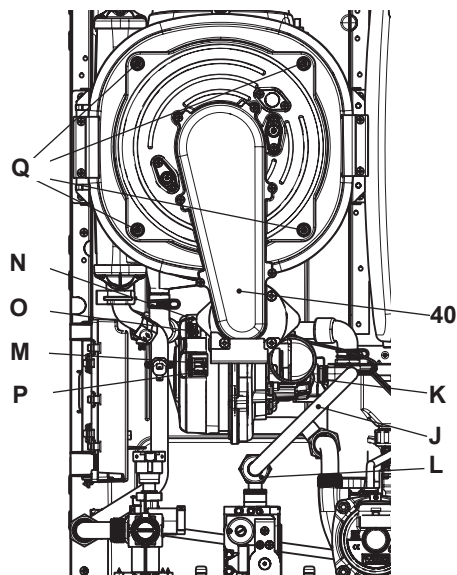

Fig. 9.12
Removing the fan burner unit 40 in Fig. 9.12.
- Insert a flat screwdriver in the connector recess P and lever towards the bottom, disconnect the connector at the same time M by pulling towards the front M (Fig. 9.12).
- Disconnect the fan connector N by pressing the plastic hook O positioned at the bottom part of the connector (Fig. 9.12).
- Unscrew screws Q and remove the fan burner unit 40 (Fig. 9.12)
- Unscrew the Q screw nuts and remove the burner group fan 40 (Fig. 9.12)